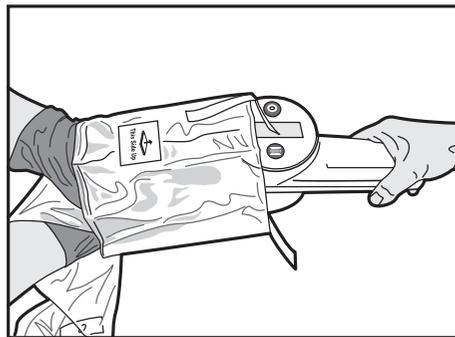

Figure 4. Inserting the MDU5 PLUS
5. The non-sterile operator then places the MDU5 PLUS into the opening, positioning the MDU5 PLUS so that the top of the unit is aligned with the “This Side Up” sticker on the bag (Figure 4).